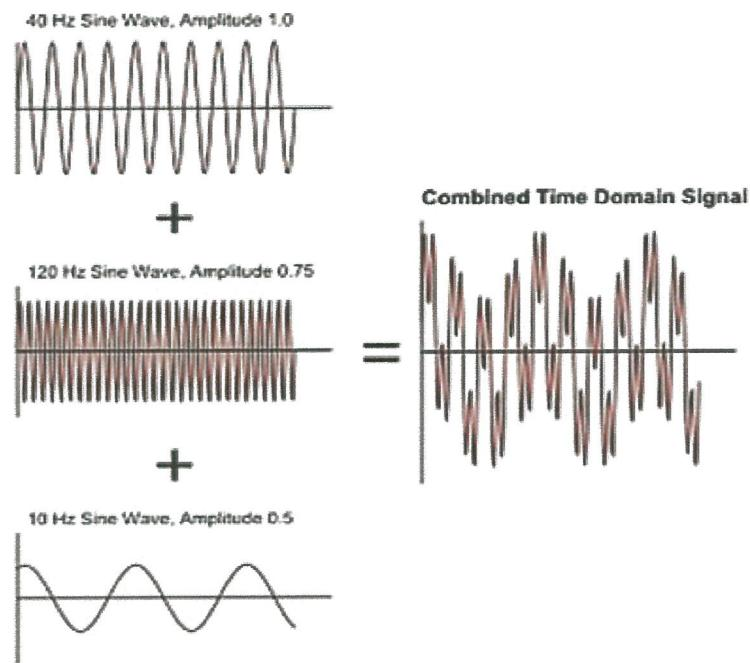

Figure Q2 (b)
- (b) Three sine wave with different frequencies and amplitudes were combined to make a single sine wave signals in **Figure Q2(b)**. Using a Fourier analysis method, produce a frequency domain graph to represent the combined time domain signal. (5 marks)
- (b) If the item in problem Q3(a) measures 8"X8"X8" and is equally sensitive to shock when dropped on any of its six (6) faces, and the working length is half of the total length of the spring, formulate the interior dimensions of the package necessary to contain the system. (7 marks)